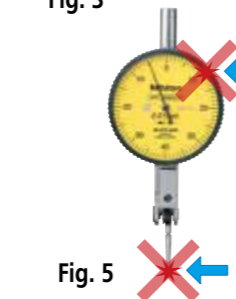

Fig. 5
4. Be sure not to apply force to the bezel and the stylus in lateral direction (Fig. 5). It affects the operation and accuracy.